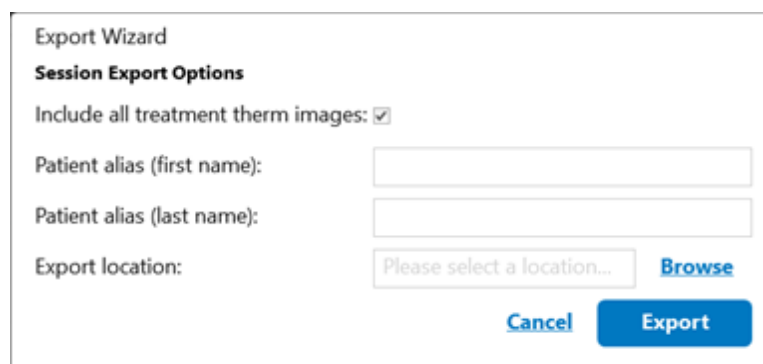

Figure 66: Export Wizard
3. The **Export Wizard** opens (Figure 66). Complete the **Session Export Options**: